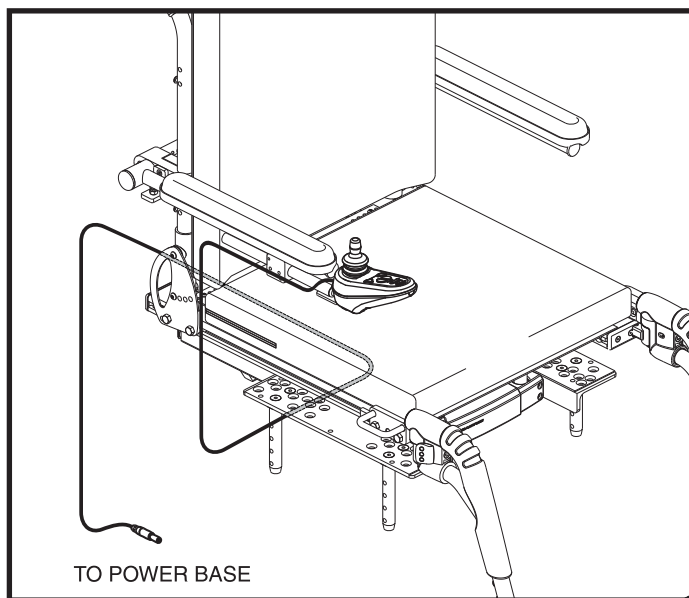

Figure 8. Controller Routed on a TRU-Balance Power Tilt
4. Install the controller and route the harness to the back of the power base. **See figures 8 and 9.**